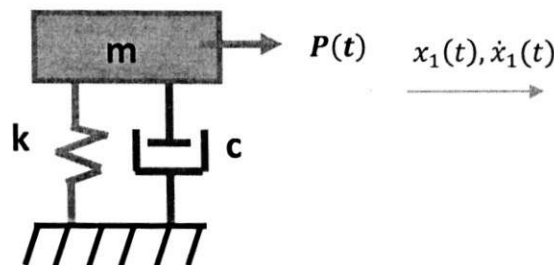

Figure 2
- [2] Solve the equation of motion for the external force $P(t) = 3t^2 + 4t - 5$ for the system presented in Figure 2. Estimate the displacement, velocity and acceleration numerically by using the **Newmark-Beta Method** for the following time steps $t = 0, 0.1, 0.2$?